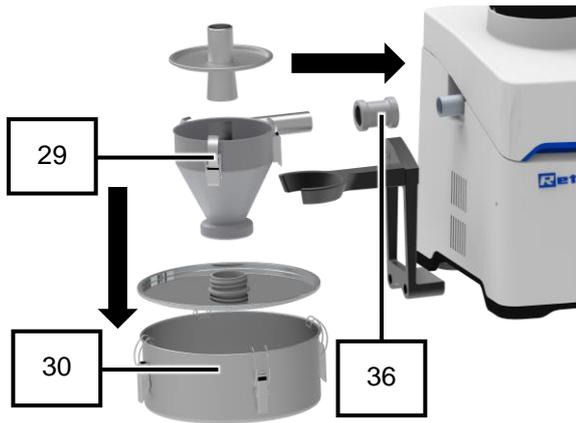

Fig. 48: Components of the cyclone separator
13. Place the cyclone separator (29) in the fork of the support (31) (Fig. 48).
14. Connect the cyclone separator (29) and through cassette (26.1) with the coupling (33) (Fig. 48).
- ➔ The sockets of the cyclone separator (29) and the collection receptacle (30) are aligned.
17. Attach the collection receptacle (30) to the cyclone separator (29) (Fig. 48).